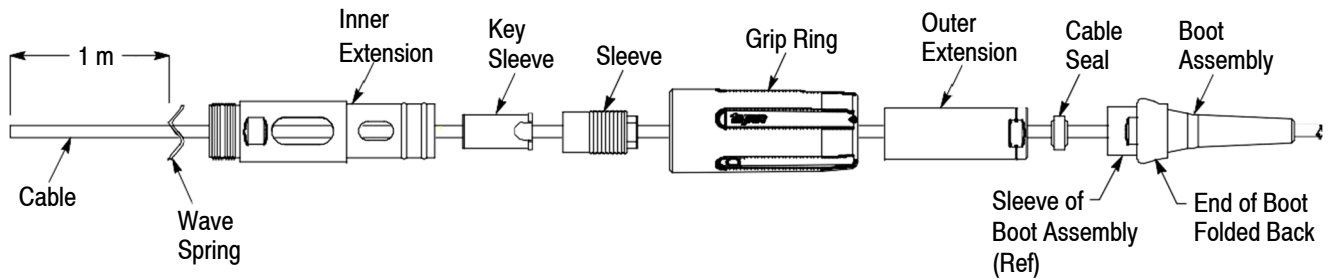

Figure 2
1. Fold the large diameter end of the boot back over itself to expose the wrench flats of the sleeve of the boot assembly. Refer to Figure 2.
2. Slide the components shown in Figure 2 onto the cable allowing 1 m at the end of the cable for stripping the cable. Make sure to orient each component as shown.